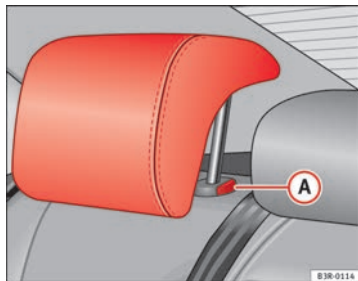

Fig. 112 Outer rear seats: Head restraints
- Press button **A** ⇒ Fig. 112 and lower the head restraint.
- Press button **A** ⇒ Fig. 112 and pull out the head restraint.